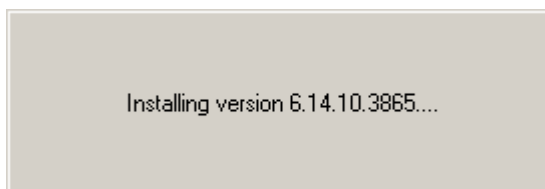

Figure 6-9: Intel® Graphics Media Accelerator Driver Installing Notice
Step 4: Read the license agreement. To accept the terms and conditions stipulated in the license agreement shown, click **YES** and the installation notice appears (Figure 6-9).